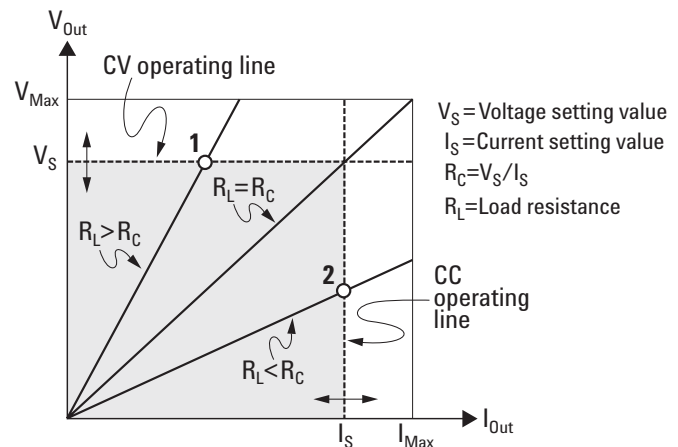

Figure 5. Output characteristics
**Figure 5** shows the operating modes of the output of this power supply. The operating point of one supply will be either above or below the line  $R_L = R_C$ . This line represents a load where the output voltage and the output current are equal to the voltage and current setting. When the load  $R_L$  is greater than  $R_C$ , the output voltage will dominate since the current will be less than the current setting. The power supply is said to be in constant voltage mode. The load at point 1 has a relatively high resistance value (compared to  $R_C$ ), the output voltage is at the voltage setting, and the output current is less than the current setting. In this case, the power supply is in the constant voltage mode and the current setting acts as a current limit.